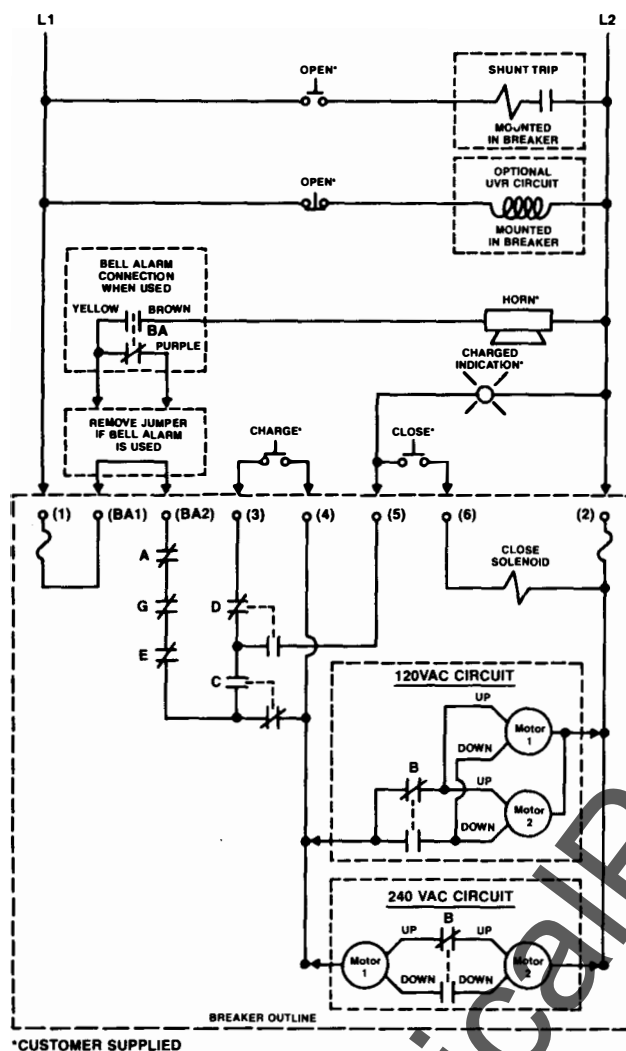

Figure 13. AC Power Sources
- a) For bell alarm lockout—Interconnect bell alarm switch to motor operator terminal board as shown in Figures 13 and 14.